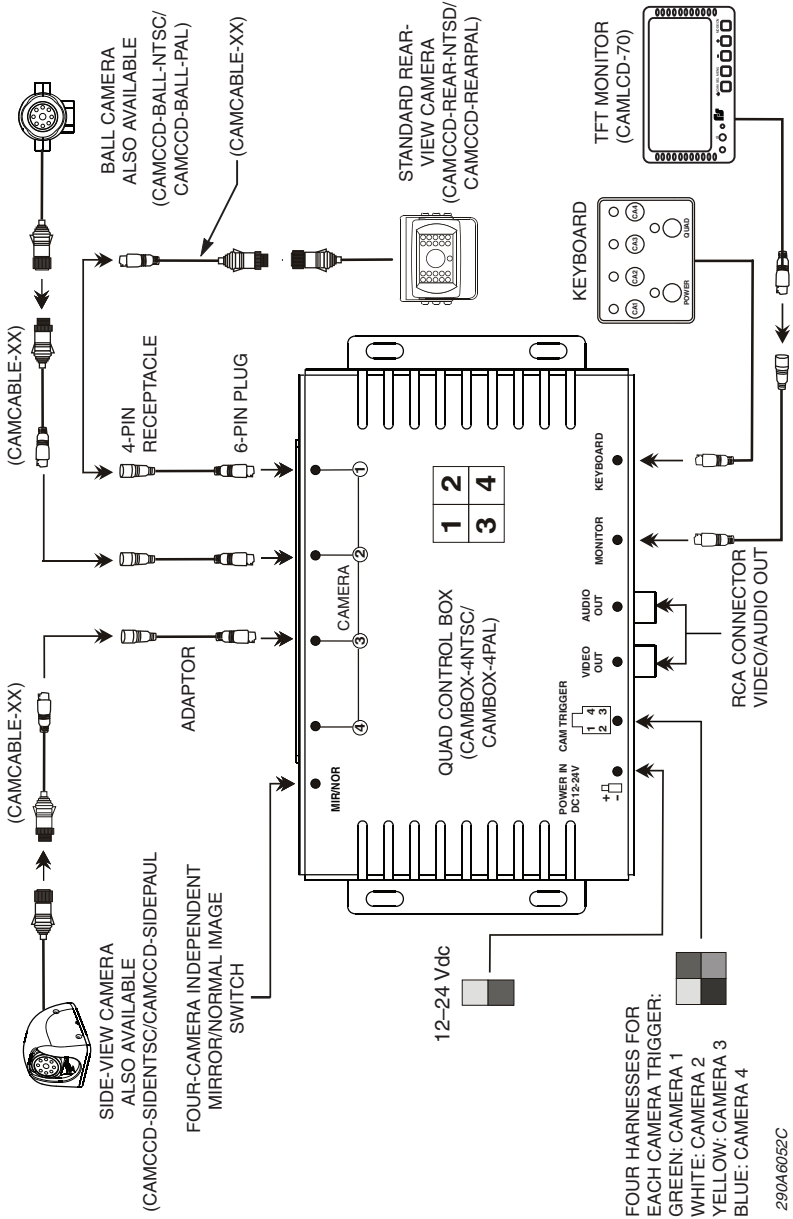

Figure 8. Option 2: System configured with a CAMLCD-70 monitor and CAMBOX-4NTSC/CAMBOX-4PAL (as in the CAMSET70-NTSC-4/CAMSET70-PAL-4)
Mount the CAMBOX-4NTSC/CAMBOX-4PAL control box with the included self-tapping hardware. The control box should be centrally located within the vehicle in relative proximity to the monitor. The control box is not intended for installation outside the vehicle. For an illustration of a typical installation, see Figure 8 on page 41.
An example system is shown in Figure 8 on page 41:
5. Connect a 12V–24V trigger to the appropriate wire to signal when the monitor should display Camera 1, 2, 3, or 4. The four-wire trigger wiring harness is connected to CAM TRIGGER input (Figure 8 on page 41):